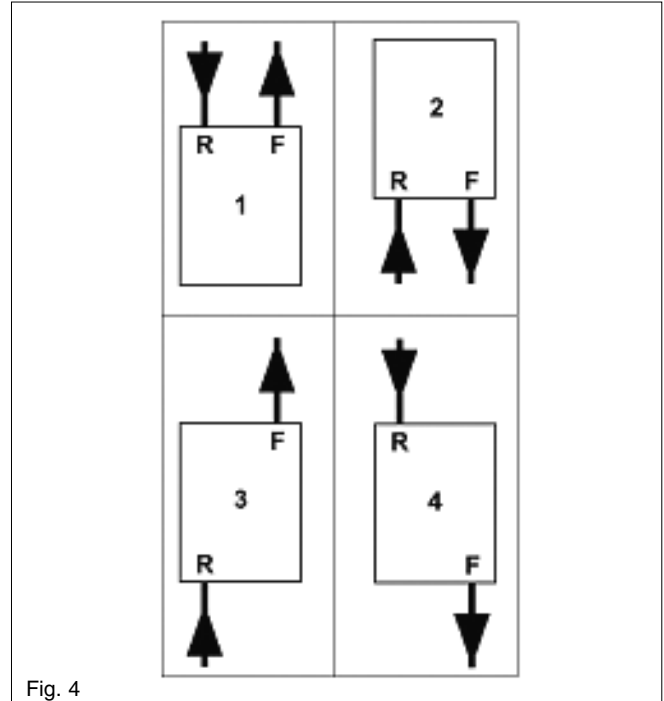

Fig. 4
The terminal should be located where the dispersal of combustion products is not impeded and with due regard for the damage and discoloration that may occur to building products located nearby. The terminal must not be located in a place where it is likely to cause a nuisance (see fig. 4). In cold and/or humid weather, water vapour will condense on leaving the terminal; the effect of such plumbing must be considered.
3.11 APPLIANCE PIPEWORK CONFIGURATION (fig.4)